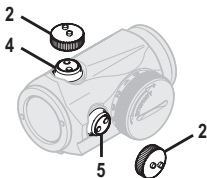

Fig. 2 Remove caps
- a Open Lens covers (3).
- b Turn the Rotary switch (8) clockwise until the red dot has a suitable intensity to contrast against the target.
- c To access the Elevation adjustment screw (4) and the Windage adjustment screw (5), remove the Adjustment cap (2). See Fig. 2.
- d The Adjustment Cap (2) or the Tool (11A) must be used to turn the Adjustment screws. Place the knobs on the Adjustment cap (2) into the recesses on the Adjustment screws (4) (5).